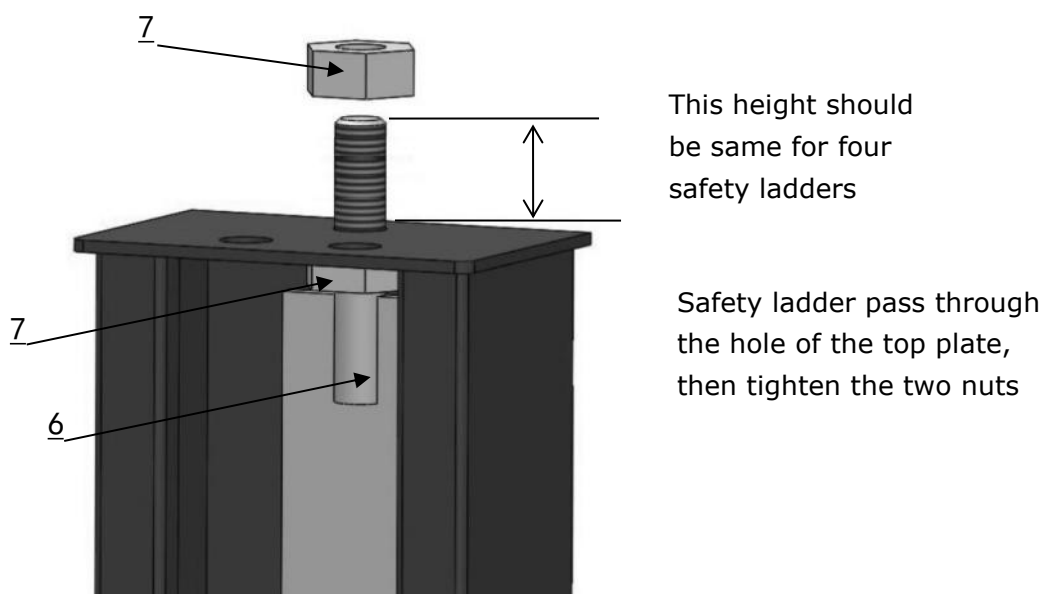

Fig. 16
2. Install safety ladders (See Fig. 16)